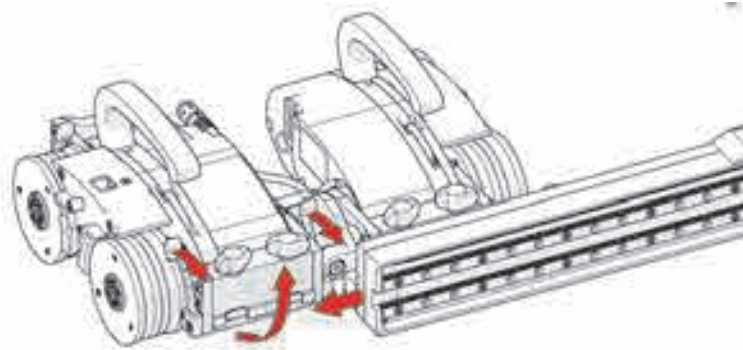

Figure 4-37 Properly mounted raster arm
2. Release the swivel mount levers and pivot the swivel mount to align with the mounting rail of the raster arm. Slide the raster arm on to the remaining module's swivel mount and tighten all four black wing knobs (see Figure 4-37 on page 123).